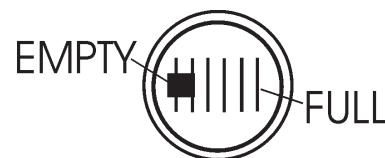

Figure 8. Fuel Gauge
3. Read the fuel gauge located on top of the fuel tank (Figure 8) to determine if the fuel level is low. If fuel is low, replenish with *clean unleaded fuel*.